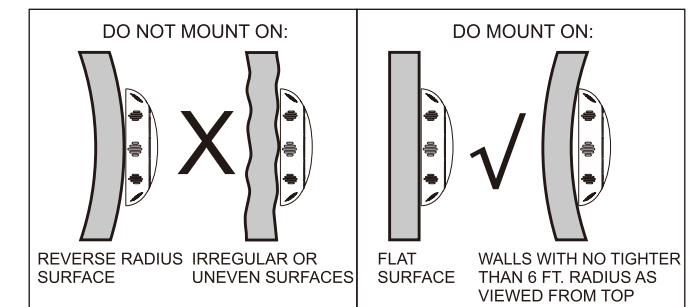

Figure 3.
- If pool surface is to be plastered, you must allow proper concrete cutback for plaster thickness. Finish concrete surface must be flush with Mounting Spacer. CAUTION: Finish area surrounding Mounting Spacer MUST be flat and flush with the face of Mounting Spacer, this ensures a snug fit between light and wall, see Figure 3.